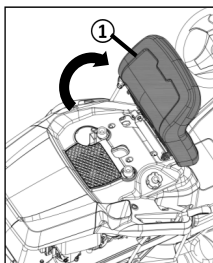

Figure 25
1. Fold the seat forwards (Figure 25 ①).